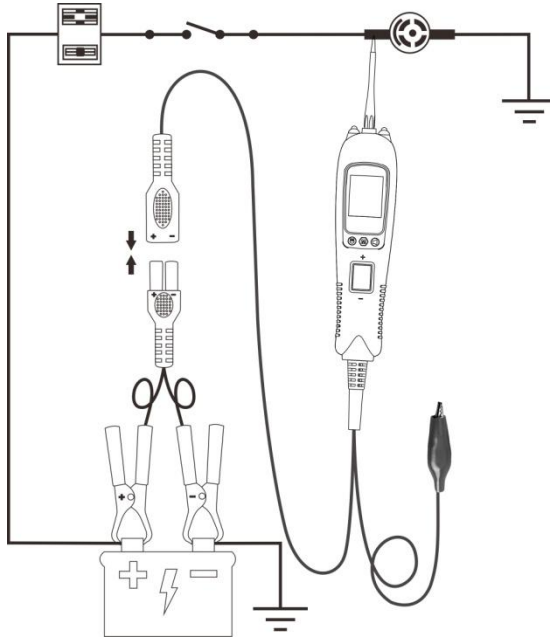

Figure 15
- 2) Observe the green LED, quickly depress and release the rocker switch forward. If the green LED went out and the red LED came on, you may proceed with further activation. (Figure 15) If the green LED went off at that instant or if the circuit breaker tripped, the tool has been overloaded. This could happen for the following reasons: